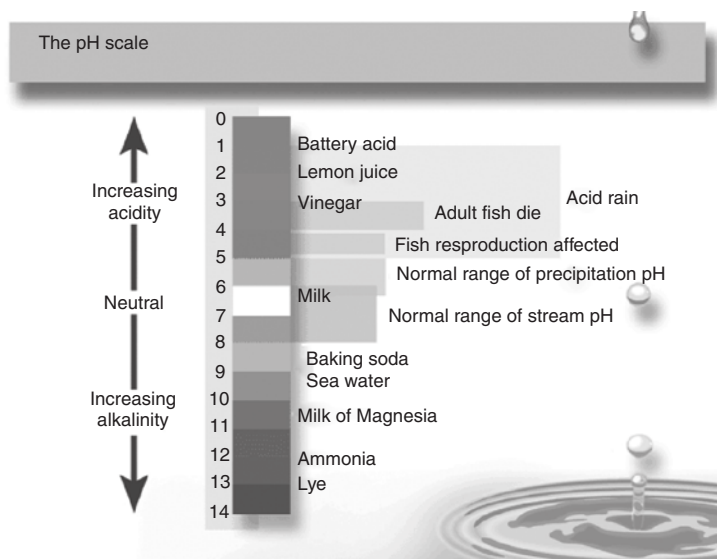

Figure 6.1
**Table 6.1** Effect of low pH on life in water: read in association with Figure 6.1
▪ Because of naturally occurring acids in the atmosphere, especially carbonic acid, the pH of rain is below 7. However, a pH of 5.6 or less often indicates the influence of human activities. Since 1965, much rain and snow in the northeastern United States has had a pH of 4.05–4.4, well below 5.6. Most of the United States east of the Mississippi River, including the southeast, experiences acid rain to varying degrees. In a few cases, rain has been measured with a pH as low as that of vinegar, about 3, and the even more acidic lemon juice. See Figure 6.1 and Table 6.1.